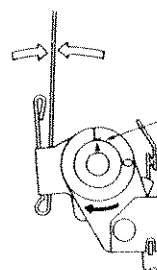

Fig. 10B
- d. Turn the knob to "L" and fix the spring unit. (See Fig. 10B)